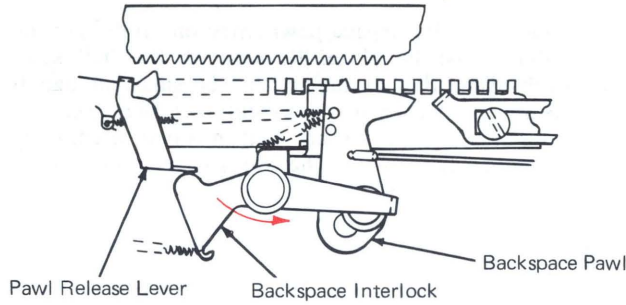

Figure 7 – Pawl Release Lever – Interlock Activated (Bottom View)
1. During the carriage return, tabulation and hand carriage release, the escapement pawl release lever causes the interlock to pivot and prevents the backspace pawl from sliding into the elongated mounting hole (Figure 7).